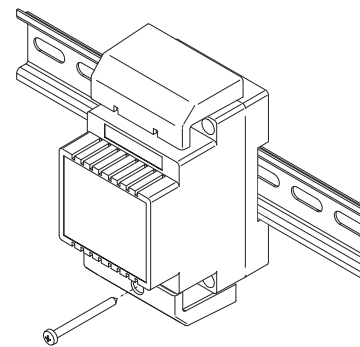

Fig. 4
5. When all connections are made replace and fix the terminal covers with the relevant screws (**Fig. 4**);